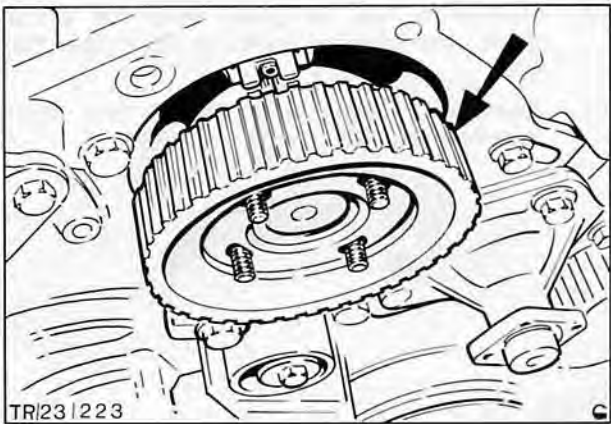

Fig. 46. Injection pump drive gear
17. Remove four nuts and carefully prise off injector pump drive gear, Fig. 46.